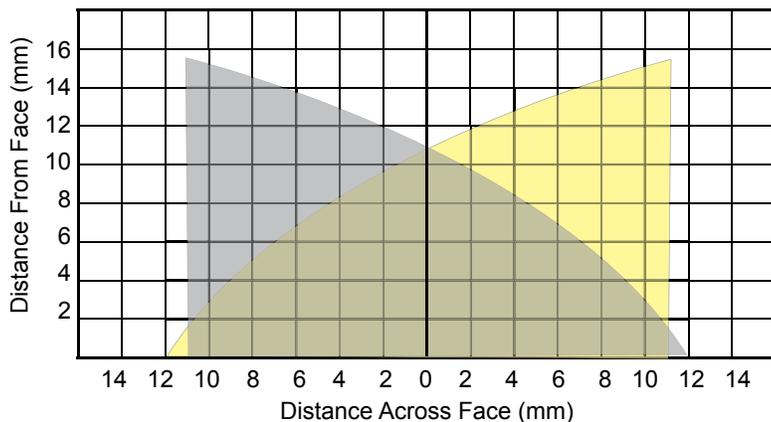

Fig 4
- Sensing Distance.....15mm (See Fig. 4 - Table 5)
Select a mounting area, keeping the Free Zone requirements (Fig. 1) in mind. The target must move laterally across the face of the speed switch. Actuating distance from the target to speed switch face is shown in Fig. 4 and Table 5 (Page 3). The information provides an estimated setup distance prior to actual starting.